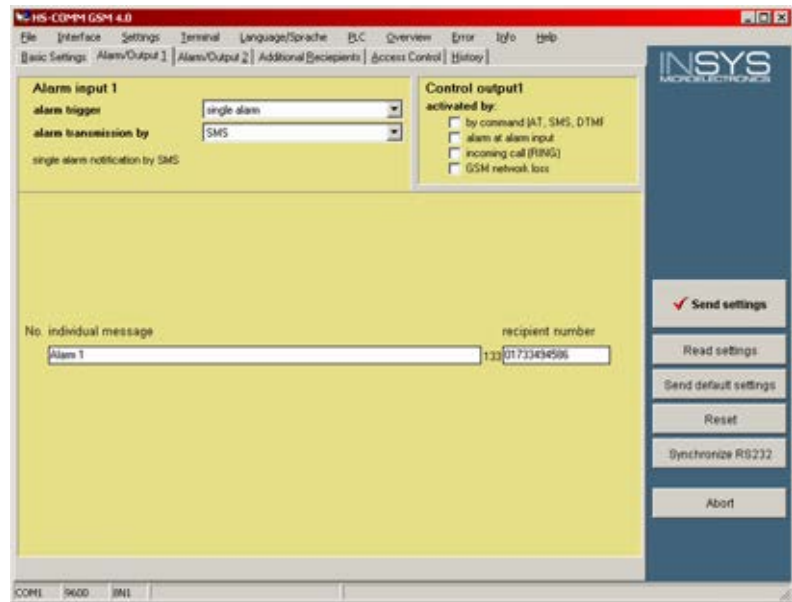

Fig. 180: GSM modem - alarm/output 1
2. Set up the modem as shown in (Fig. 180) on the "Alarm/Output 1" tab.